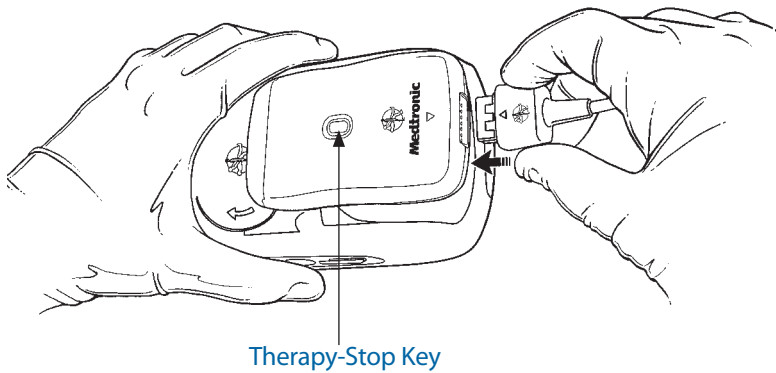

FIGURE 20
- 3 Connect the snap-lid connector cable to the ENS, aligning the arrows on the ENS and the cable plug (FIGURE 20).